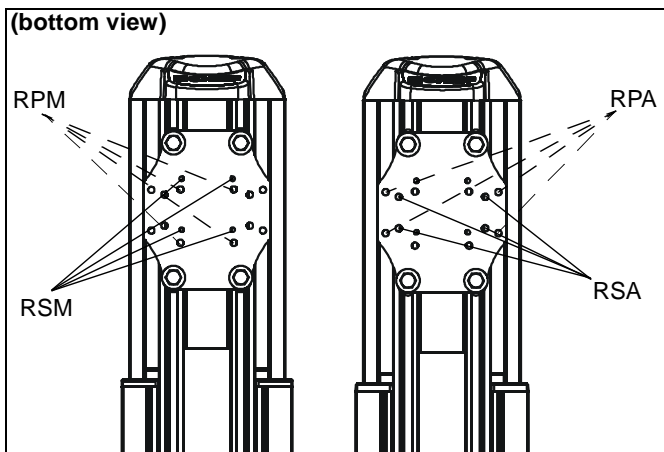

Figure 17
NOTE: Determine hole configuration to use for each specific projector mount. (See Figure 17)
- Line up mounting holes on RPM mount with corresponding holes on projector mounting plate. (See Figure 17)
- Line up mounting holes on RSM mount (X) with corresponding holes on projector mounting plate. (See Figure 17)
1. Line up mounting holes on RPA mount with corresponding holes on projector mounting plate. (See Figure 17)
1. Line up mounting holes on RSA mount with corresponding holes on projector mounting plate. (See Figure 17)